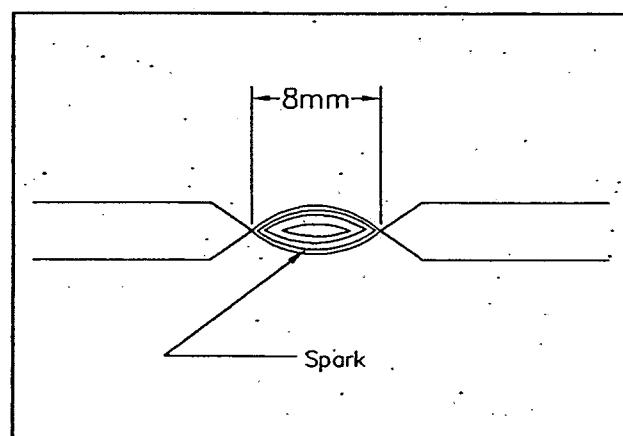

Fig 5.3
- Note the spark in the spark gap window. It should be strong and continuous and not intermittent, across a pre-set 8 mm gap (fig 5.3). Allow the spark to jump the test gap for atleast five minutes continuously, to ensure proper operation under the temperature conditions of actual riding.